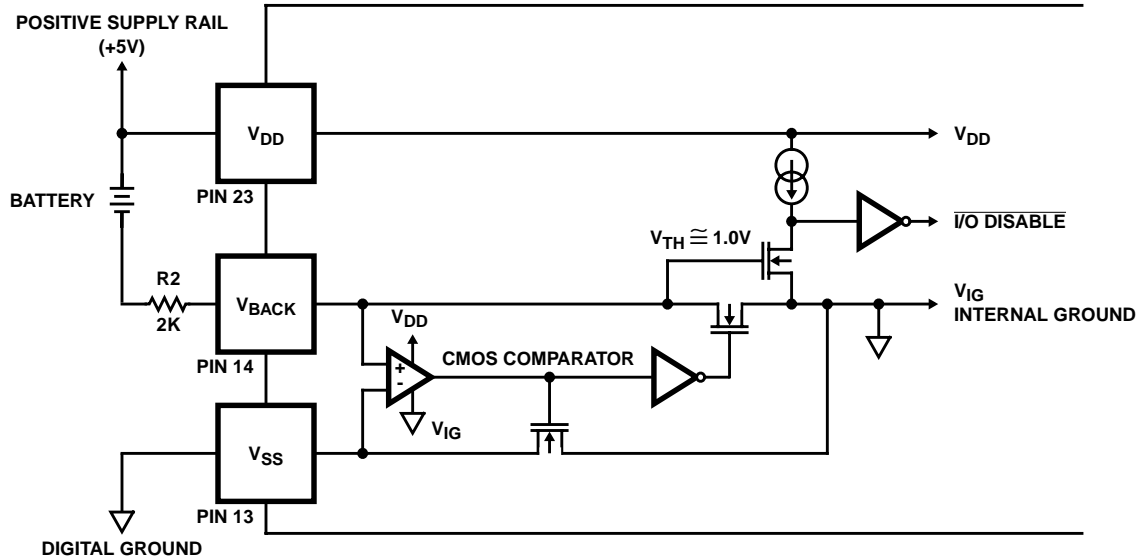

FIGURE 6. SIMPLIFIED ICM7170 BATTERY BACKUP CIRCUIT
The ICM7170 contains an on-chip power down detector that eliminates the need for external components to support the battery-backup switchover function, as shown in Figure 6. Whenever the voltage from the  $V_{SS}$  pin to the  $V_{BACKUP}$  pin is less than approximately 1.0V (the  $V_{TH}$  of the N-channel MOSFET), the data bus I/O buffers in the ICM7170 are automatically disabled and the chip cannot be read or written to. This prevents random data from the microprocessor being written to the clock registers as the power supply is going down.
The new load configuration (Figure 6) allows these two conditions to be met independently. The two load capacitors, C1 and C2, provide a fixed load to the oscillator and crystal. C3 adjusts the frequency that the circuit resonates at by reducing the effective value of the crystal's motional capacitance, C0. This minute adjustment does not appreciably change the load of the overall system, therefore, stability is no longer affected by tuning. Typical values for these capacitors are shown in Table 5. C1 and C2 must always be greater than twice the crystal's recommended load capacitance in order for C3 to be able to trim the frequency. Some experimentation may be necessary to determine the ideal values of C1 and C2 for a particular crystal.
4. EXTERNAL BATTERY BACKUP - The ICM7170 may be placed on the same power supply as battery-backed up RAM by keeping the ICM7170 in its operational state and having an external circuit switch between system and backup power for the ICM7170 and the RAM. In this case  $V_{BACKUP}$  should be pulled up to  $V_{DD}$  through a 2K resistor. Although the ICM7170 is always "on" in this configuration, its current consumption will typically be less than a microamp greater than that of standby operation at the same supply voltage (See Note 9). Proper consideration must be given to disabling the ICM7170s and the RAMs I/O before system power is removed. This is important because many microprocessors can generate spurious write signals when their supply falls below their specified operating voltage limits. NAND-ing CS (or WR) with a POWERGOOD signal will create a  $\overline{CS}$  (or  $\overline{WR}$ ) that is only valid when system power is within specifications. The POWERGOOD signal should be generated by an accurate supply monitor such as the ICL7665 under/over voltage detector. An alternate method of disabling the ICM7170's I/O is to pull  $V_{BACKUP}$  down to under a volt above  $V_{SS}$  ( $V_{SS} < V_{BACKUP} < 1.0V$ ). This will cause the ICM7170 to internally disable all I/O. Do not allow  $V_{BACKUP}$  to equal  $V_{SS}$ , since this could cause oscillation of the battery backup comparator (See Figure 6).  $V_{BACKUP} = V_{SS} + 0.5V$  will disable the I/O and provide enough overdrive for the comparator.